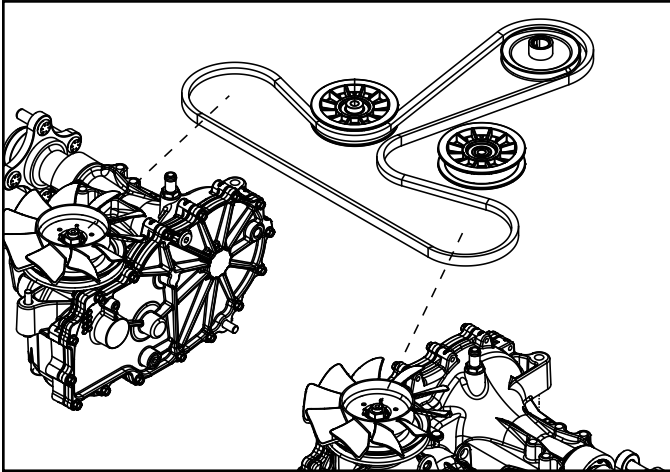

Fig. 089
6. Install the hydro drive belt and verify proper routing (Fig. 089).